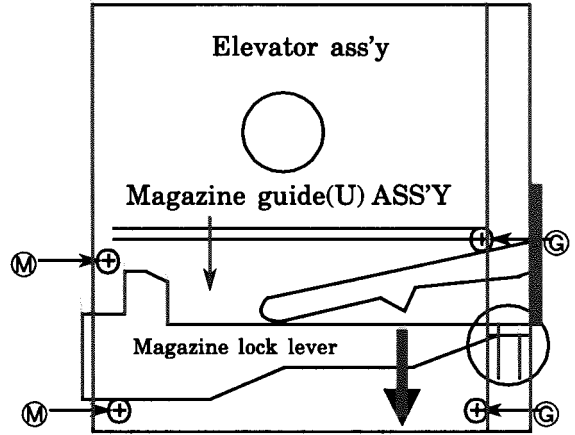

Fig14
- (20)** Use "LOCKTITE" #460 bonding agent, and apply as little as possible. Take care not to allow any excess bonding agent to get onto the turntable. Be extremely careful not to allow bonding agent to adhere to the motor bearing (the section marked by an allow in fig 14 on the right).